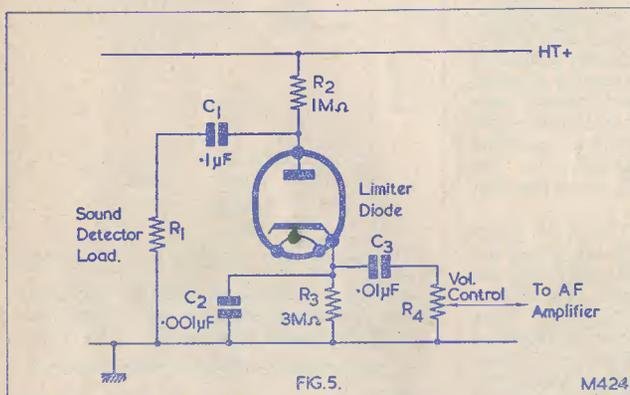

Fig. 5. A practical sound noise limiter
**Errata.** Two errors occurred in *In Your Workshop*, April issue. In Fig. 3 the resistance element of the  $5k\Omega$  potentiometer was omitted, and in Fig. 5 the  $50\mu\text{F}$  condenser  $C_2$  should have been placed on the potentiometer side of the smoothing resistor  $R_1$ .
In practice, interference limiting circuits of the type shown in Fig. 5 function quite well and incur little trouble. Minor difficulties are raised by the fact that, if the heater of the diode has a high a.c. potential with respect to chassis, hum may be introduced into the a.f. stages. Another minor point is that the circuit involves the use of a few components which all operate at fairly high impedance, and these could conceivably pick up unwanted radiation from the video i.f. strip. Yet a third factor is that the relatively high-value resistors  $R_2$  and  $R_3$  occasionally go open-
All the best television sound systems have interference limiters, even when such limiters provide only partial relief to the interference problem. A typical pulse interference limiter is illustrated in Fig. 5. In this diagram the limiter diode appears immediately after the sound detector load, to which it is connected via the  $0.1\mu\text{F}$  condenser  $C_1$ .